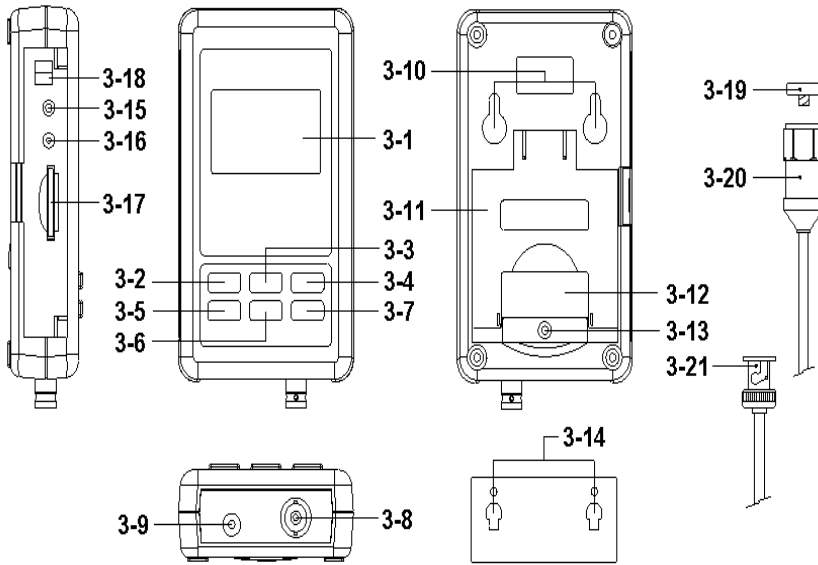

Fig. 1
- * Loose the " Screw of the battery cover " (3-13, Fig. 1) and take away the " Battery Cover " (3-12, Fig. 1) from the meter.
- * Plug the output plug of " AC to DC adapter " into the " DC 9V power adapter input socket " (3-9, Fig. 1)
Make sure it is firmly attached. Connect the cable to the meter by attaching it to the "BNC connector(3-8, Fig. 1) on the Bottom of the meter.If the surface to be tested is magnetic, attach the magnetic base to the vibration pickup and attach the pickup to a flat surface.If the surface to be tested is not magnetic, hold the pickup against the surface. Do not hold the cable while making measurements.
The currently selected unit of measure is shown on the meter's LCD. To change the unit of measure, press and hold the ▲ Button " Unit Button (3-3, Fig. 1)" until the desired unit of measure appears and then release the button.
The currently selected function is shown on the meter's LCD. To change the function, press and hold the button. "FUNCTION button(3-6, Fig. 1)" until the desired function appears, then release the FUNCTION .
To freeze a displayed reading on the LCD, momentarily press the "HOLD button (3-4, Fig. 1)" (the HOLD icon will appear above the reading). To exit HOLD, press the HOLD button again.
Press the "Time button (3-5, Fig. 1)" once, display will be show Year/Month/Date, Hour/Minute/ Second and samling time information.
Prepare a " SD memory card " (1 GB to 16 GB, optional), insert the SD card into the " SD card socket " (3-17, Fig. 1) with the correct direction exactly.
Press the " Logger button (3-7, Fig. 1) > 2 seconds continuously, until the Display show the indicator " DATALOGGER ", release the " Logger Button " (3-7, Fig. 1), then the measuring data along the time information will be saved into the memory circuit.
During execute the Datalogger function (Display show the " Datalogger " indicator), press the " Logger button " (3-7, Fig. 1) > 2 seconds continuously, until the Display indicator " DATALOGGER " is disappeared, release the " Logger Button " will finish the Datalogger function.
Press " Time button " (3-5, Fig. 1) > 2 seconds continuously, the LCD display will present the time information of Year/Month/Date, Hour/Minute/Second and the sampling value.